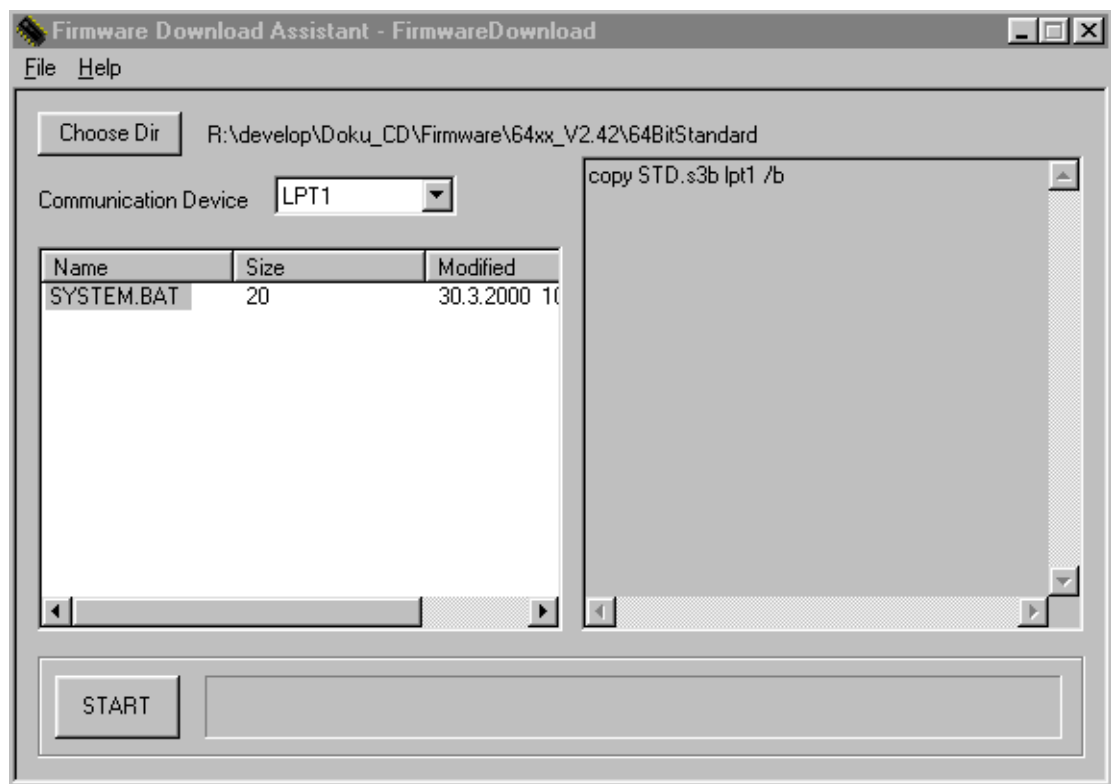

Fig. 4: Program window of „FirmwareDownload“ - here you can select the appropriate batch file and start the download process.
1. The setup program places an icon on the Windows desktop (see Fig. 3). Click on the icon to start the program. The program window opens (see Fig. 4)
2. Click on „Choose Dir“. A file selection window appears. Open the folder which contains the firmware files and click on the file „System.bat“. The so marked file appears in the left half of the program window (see Fig. 4).
4. Click on the batch file in the left part of the program window (see Fig. 4). The command lines contained in the batch file now appear in the right part.